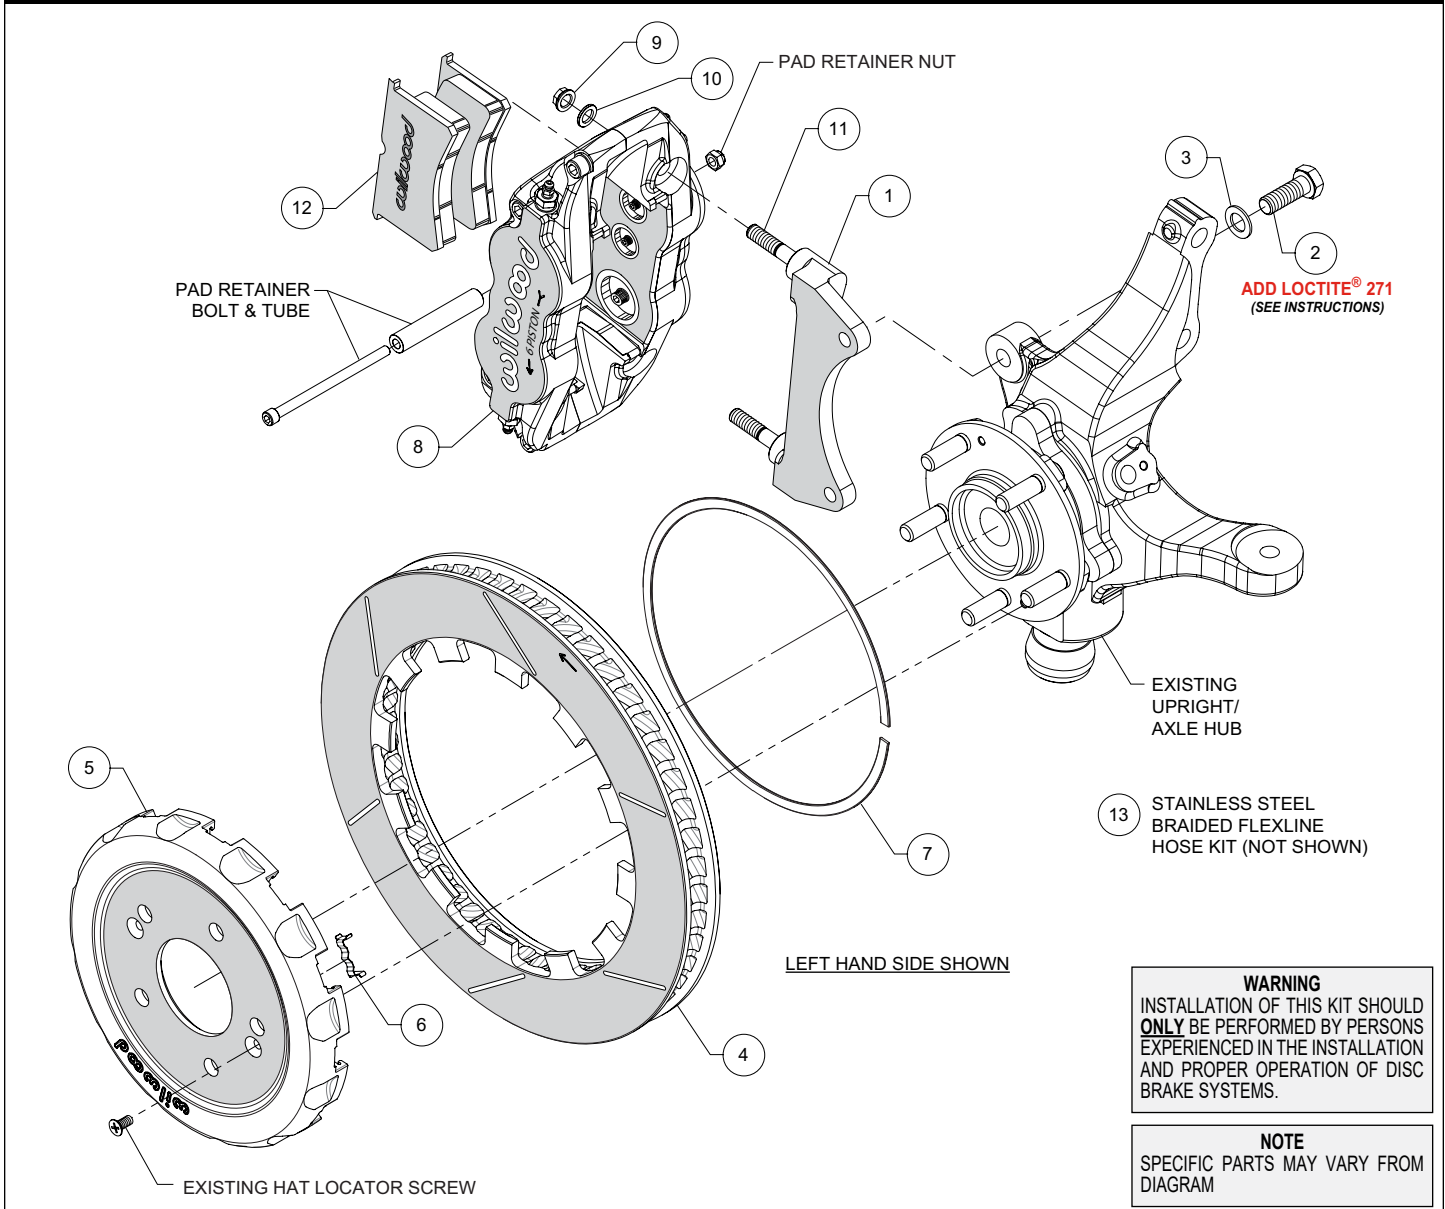

Figure 1. Typical Installation Configuration
NOTE: Numbers in parenthesis refer to the parts list and Figure 1 on the preceding pages.
- Orient the caliper mount bracket (1), as shown in Figure 1 and Photo 1, and install using bolts (2) and washers (3). Temporarily tighten the mounting bolts. **NOTE:** *The bracket must fit squarely against the mount bosses on the upright.* Inspect for interference from casting irregularities, machining ridges, burrs, etc. Remove the bracket mounting bolts one at a time, apply red *Loctite® 271* to the threads, and torque to 60 ft-lb.
- Insert the dynamic mount wear clips (6) into the slots in the hat (5), Photo 2. Orient the rotor (4) as shown in Figure 1 and
- Slide the hat/rotor assembly onto the axle hub, Photo 5. **NOTE:** *The hat must fit flush against the axle hub flange or excessive rotor run out may result.* Install the OEM hat locator screw(s), as shown in Photo 6 and Figure 1, to keep the hat/rotor assembly in place while continuing with the installation.
•**NOTE:** *This kit contains distinct right and left hand calipers that must be mounted in a specific direction, as described below.* Mount the caliper (8) onto the bracket (1) using lock nuts (9) and washers (10), Figure 1. Temporarily tighten the lock nuts. Ensure that the caliper is mounted so that the largest pistons are at the rotor exit end of the caliper, in relation to the forward direction of rotor rotation.
•Remove the caliper pad retainer bolt, nut, and tube from the caliper. Insert the brake pads (12) into the caliper, with the friction material facing the rotor, as shown in Photo 7. Confirm that everything fits properly, then torque the caliper lock nuts (9) to 30 ft-lb. Secure the brake pads in place with the pad retainer tube, bolt, and locknut, Photo 8. The locknut should be snug without play in the bolt or tube. Be cautious not to over tighten.